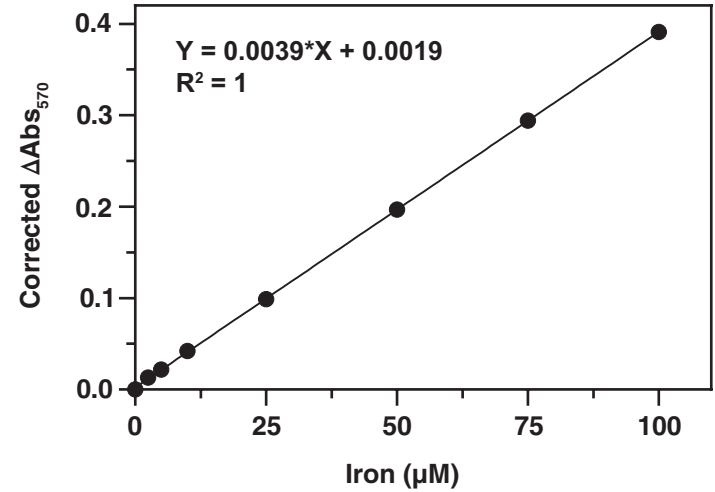

Figure 4. Typical standard curve
Many plate readers come with data reduction software that plot data automatically. Alternatively, a spreadsheet program can be used. We recommend using a linear curve fit (see Figure 4 on page 23).
5. Plot the average corrected ΔAbs_{570} values from step 3 above *versus* the final standard iron concentration (see Table 2 on page 15). See Figure 4, on page 23, for a typical standard curve.